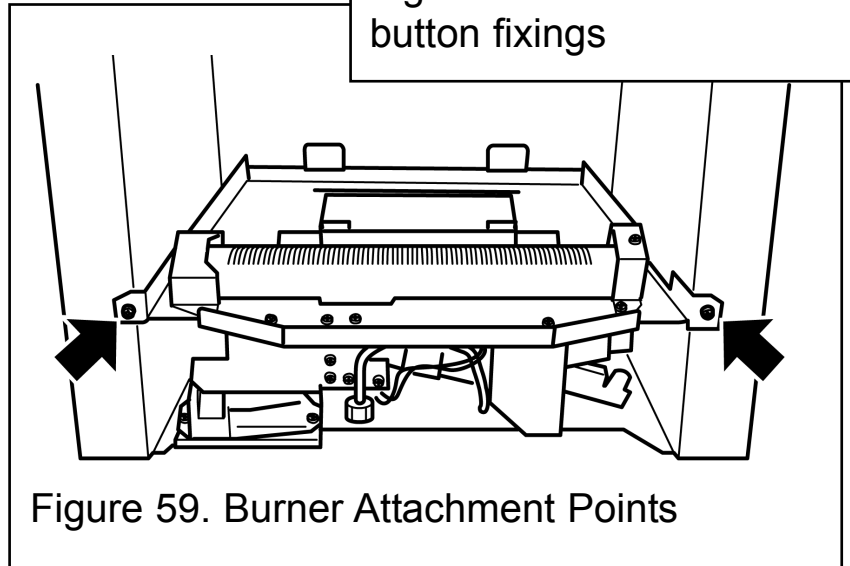

Figure 59. Burner Attachment Points
4. Detach the burner unit from the convection box by removing two screws – See figure 59.